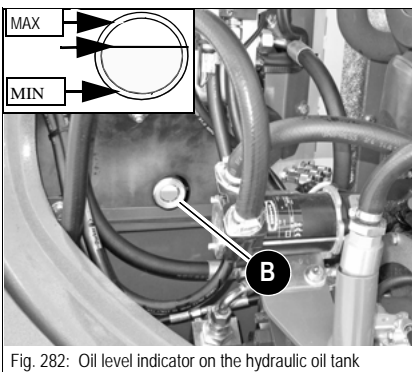

Fig. 282: Oil level indicator on the hydraulic oil tank
- The oil level must be about 1 cm (0.39 in) over the center, between positions **MIN** and **MAX**, as shown by the arrows in *Fig. 282*.